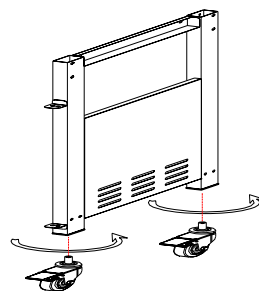

Figure 2
2. Attach the locking casters to the bottom of the right side panel legs. Then tighten caster screw securely. (Fig.2)